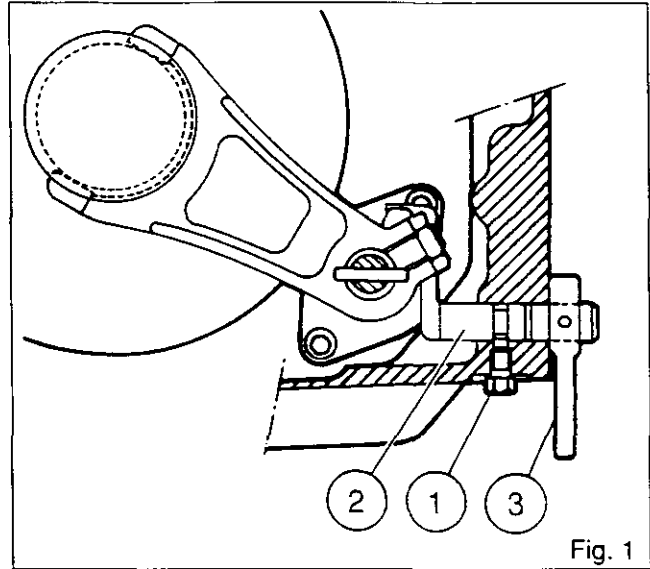

Fig. 1
4. Remove the bolt (1), withdraw the rod (2) to disengage the lever from the fork (Fig. 1).
17. Remove the rod (3) (Fig. 1).